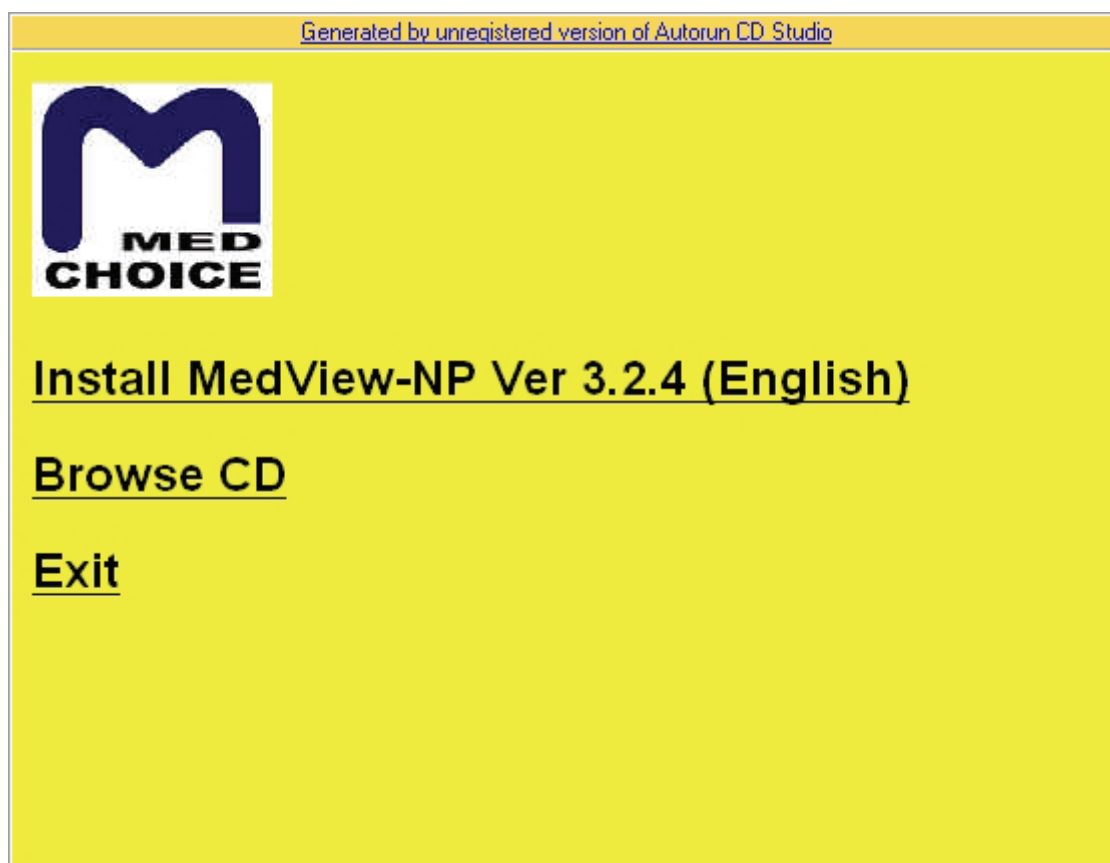
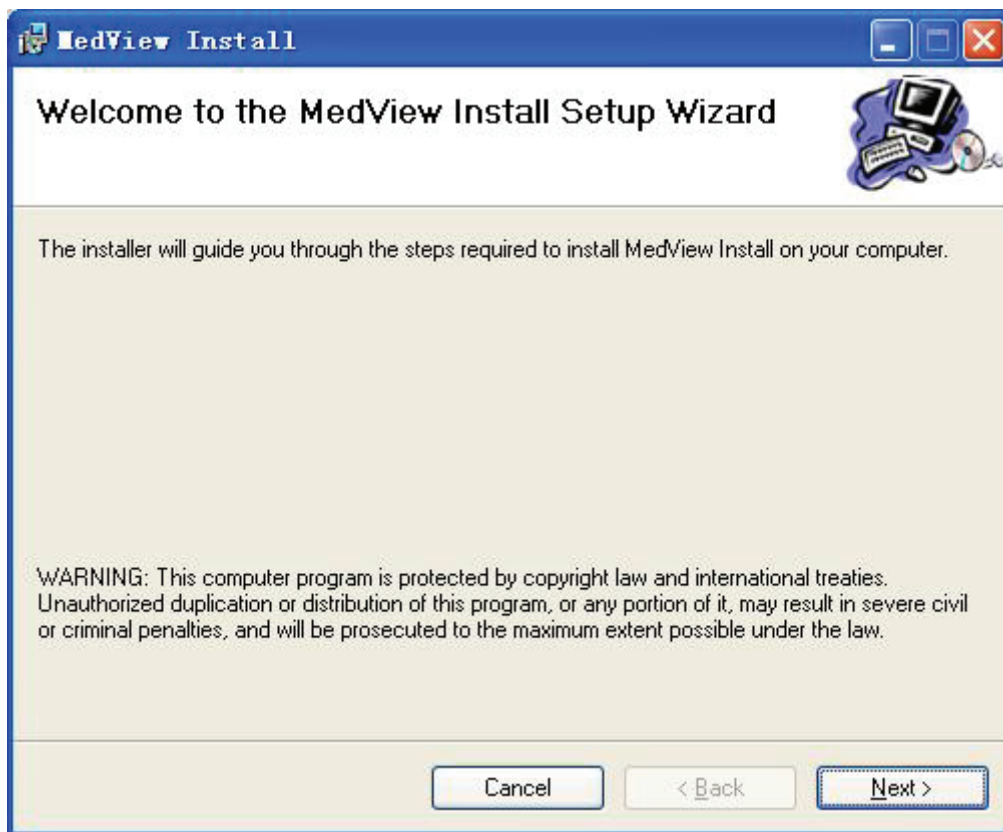
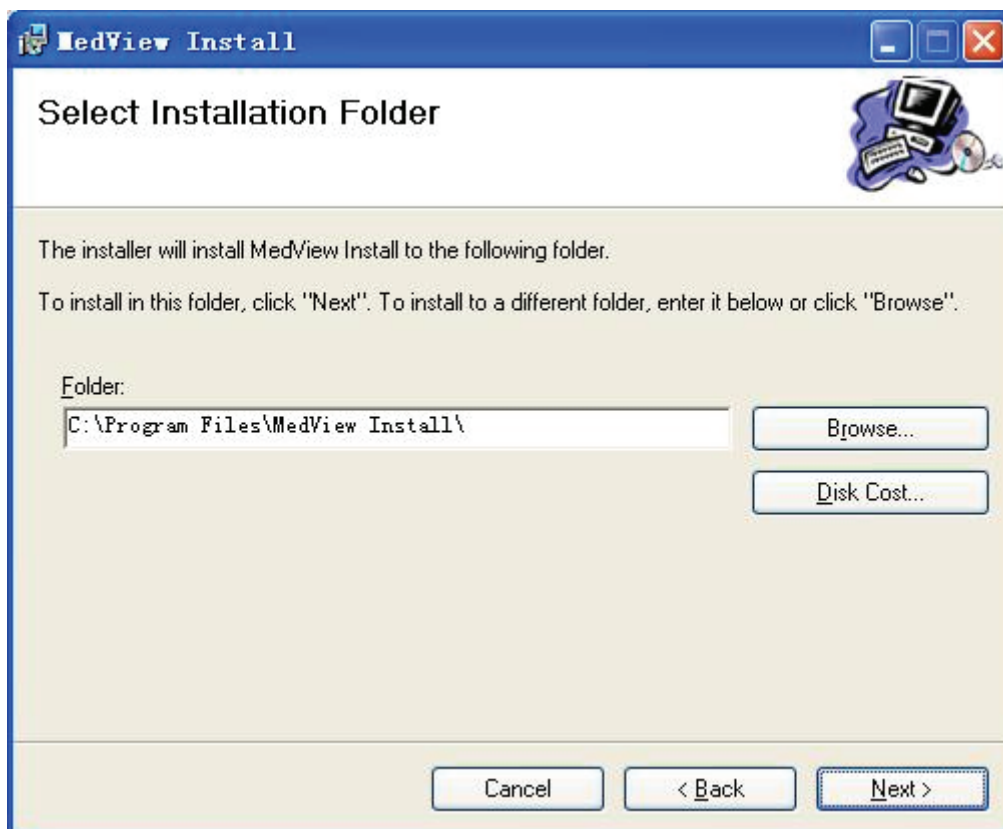
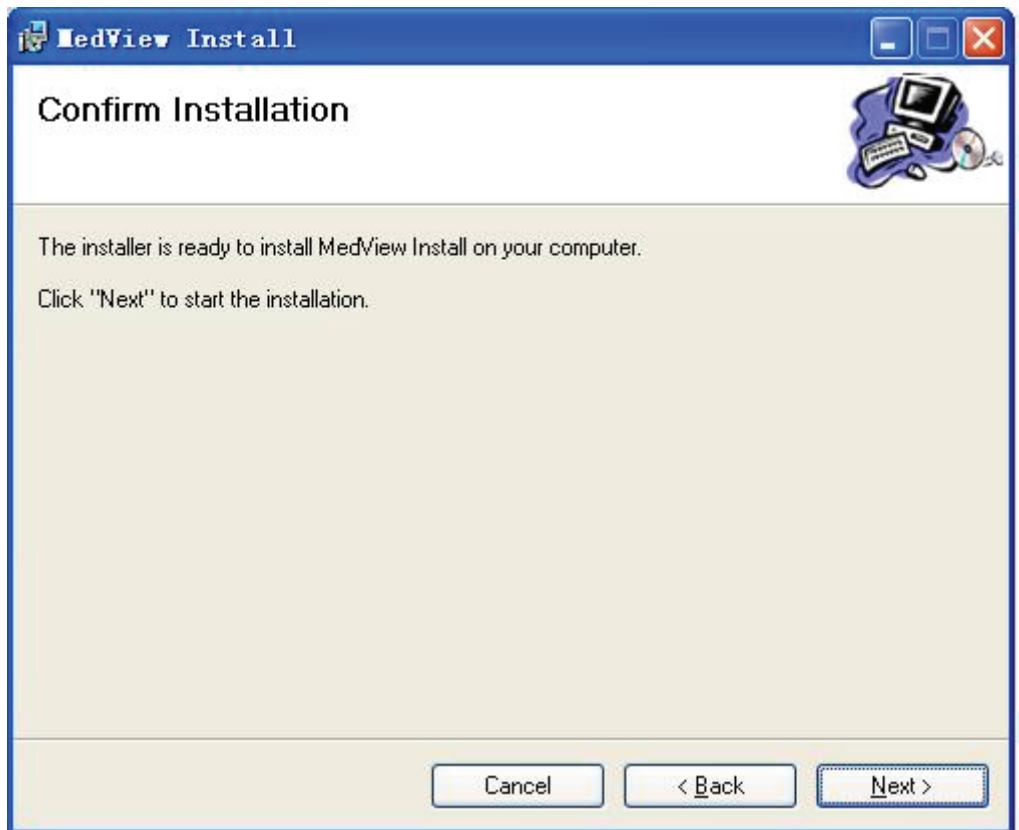

Figure 2-1
Figure 2-2
Figure 2-3
Figure 2-4
**2.1** Put the attached installation CD into computer's CD driver, the CD will run automatically and then the following interface will appear, as shown in Figure 2-1.
(1) Click “Install MedView-NP Ver 3.2.5(English)” in Figure.2-1 to begin the installshield wizard of MedView-NP Software. Then Figure 2-2 will appear.
(2) Click “Next” button in Figure 2-2, then Figure 2-3 will appear.
(3) Click “Next” button in Figure 2-3, the Figure 2-4 will appear and the installation files are saved in “C:\Program Files\MedView Install”. Also, users can click “Browse” button to choose the path for saving the installation files.
(4) Click “Next” in figure 2-4, the software is being installed..